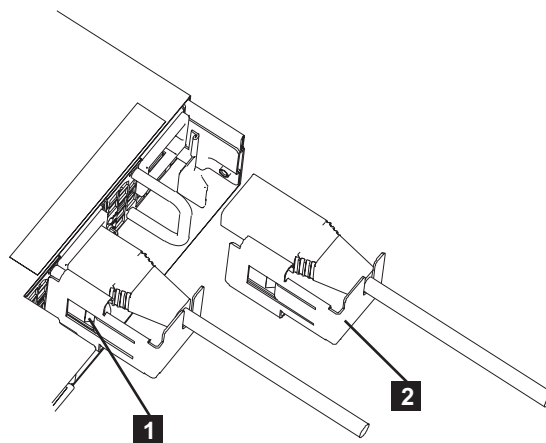

Figure 28. SAN Volume Controller 2145-CF8 cable-retention brackets
The SAN Volume Controller 2145-CF8 uses two toolless cable-retention brackets, one to retain each cable from the uninterruptible power-supply to one of the two SAN Volume Controller 2145-CF8 power supplies, as shown in Figure 28.
4. Align the cable-retention bracket on the power cord so that the bracket is to the left of the cord, as shown by **2** in Figure 28 on page 41.